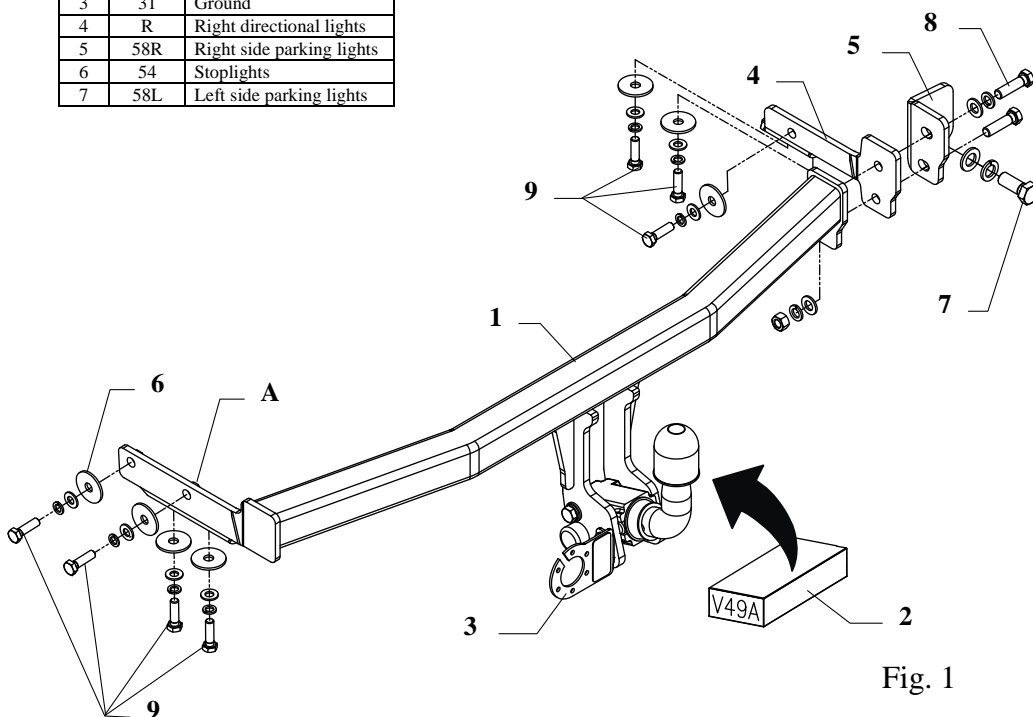
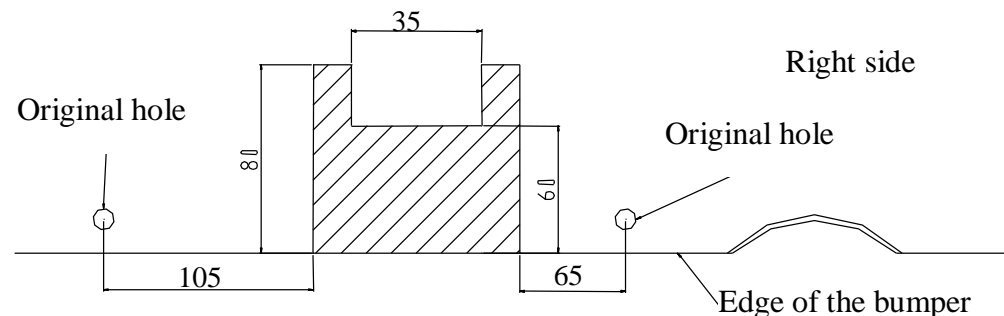

Fig. 1
Fig. 2
2. To right chassis member slide bracket (pos. 4) and screw loosely with bolts M10x35mm (pos. 9) through original holes.
3. Put main part of the towbar (pos. 1) (part A in left chassis member) and screw loosely with bolts M10x35 and screw all together with mounted bracket (pos. 4) and angle element (pos. 5) with bolts M12x45mm (pos. 8) as shown in the fig. 1.
4. Angle element (pos. 5) screw with bolt M16x40mm – pos. 7 (instead of original tow handle).
5. Reassemble the muffler and the bumper (after cut out his fragment) see fig. 2
6. Fix body of the automat and place tow-ball according to supplied instruction. Note! Remember to place socket plate (pos. 3) as shown on the drawing 1.